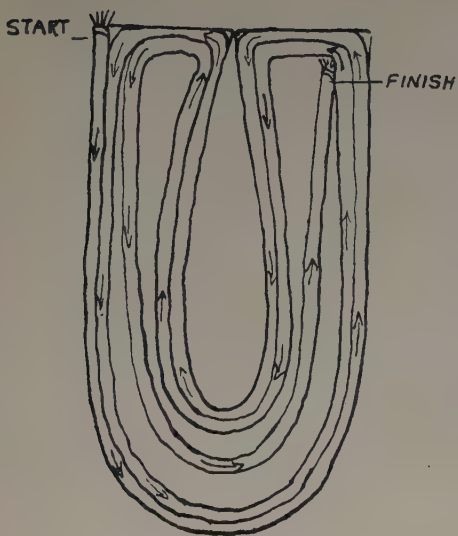
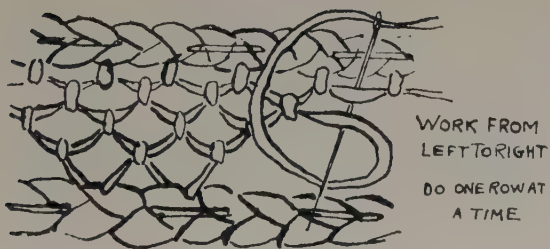

FIG. 54.—DIAGRAM (2)
FIG. 55.—DIAGRAM (3)
For the uppers, sew the plait on to cardboard, as Fig. 54 (2), and join together with the stitch in Fig. 55 (3). This makes the slipper softer; but, if preferred, the entire upper may be made of plaits stitched together, as in the case of the sole. Remove the cardboard and hammer again as for the sole.